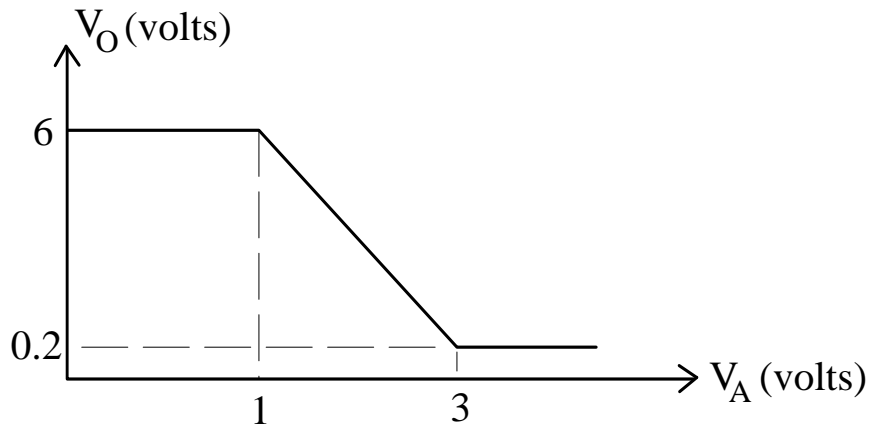

Figure 3 Transfer characteristics under WCC.
- When one of the inputs is zero ($V_B = 0$), the transfer function for no load is shown in Figure 3.
c. The transfer function under WCC ($V_B = 6 \text{ volts}$ or equivalently V_B is open circuit), is shown in Figure 3.